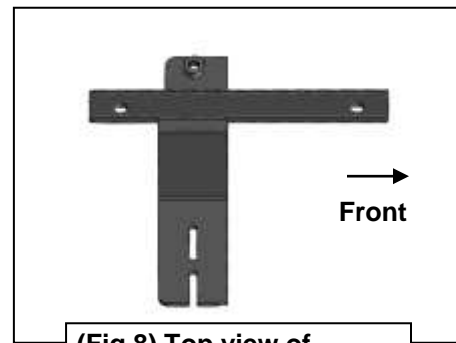

**Fig 6**
4. Next, remove the rubber plug in the 5th (next) hole along the body panel. Repeat **Steps 2—3** to install the center Bracket, **(Figures 6 & 7)**.
5. Continue along the body to the 8th and 9th, (last two along body), rubber plugs, **(Figure 6)**. Repeat **Steps 2—3** to install the passenger side rear Bracket, **(Figures 8 & 9)**. **NOTE:** Rear Brackets are offset towards the rear of the vehicle, **(Figure 8)**.